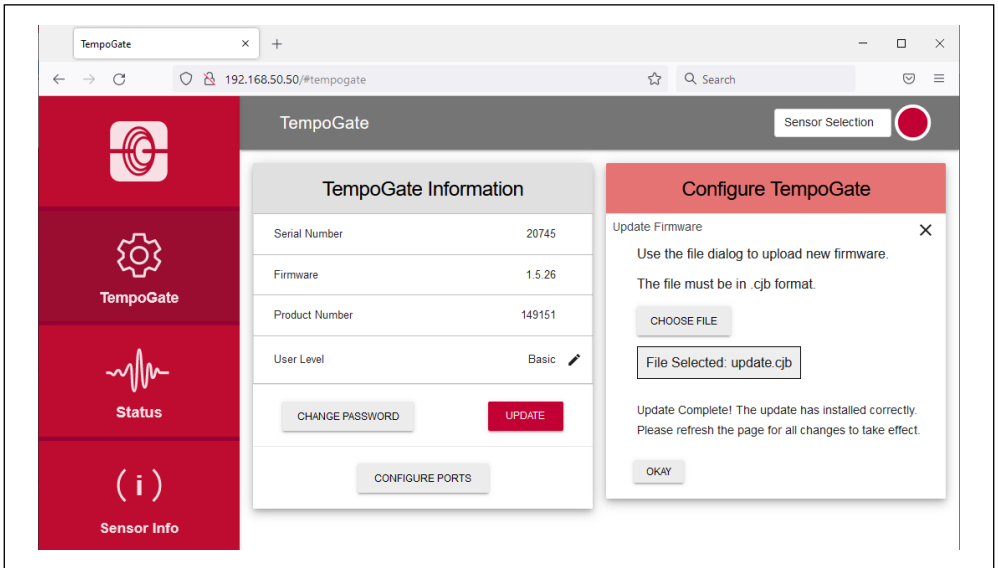

Fig. 34: Firmware update completed
- After updating the firmware, this is indicated on the user interface by the message "Update Complete!" (Fig. 34).